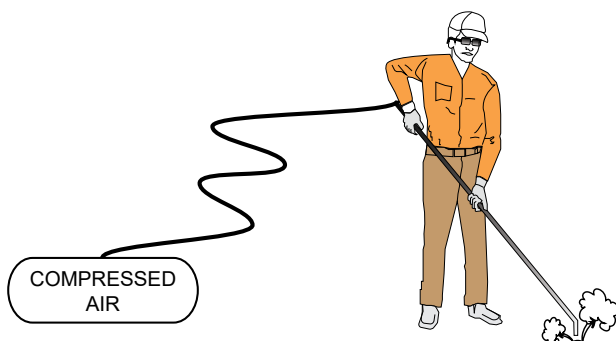

Figure 46
STEP 4 Blow out all holes with compressed air gun. **See Figure 46**